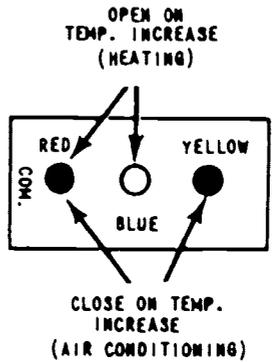

Figure 3.
3. Wire the control in series (figure 3).